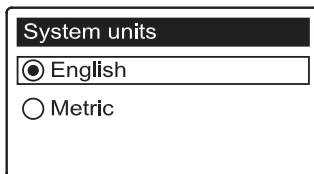

FIG. 27
- 3. SYSTEM UNITS** If the desired system already has a black dot next to it (See Figure 27), go to Step 4. Otherwise, press the DOWN (▼) or UP (▲) buttons to scroll to the desired system, then press the SELECT (○) button to choose it.